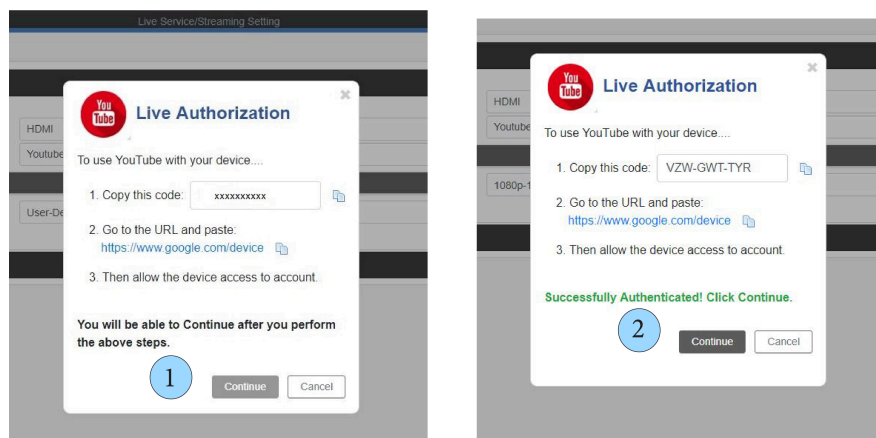

Figure 10: Live Authorization
3. After setting this up, you will find yourself on the Stream settings page (figure 10).